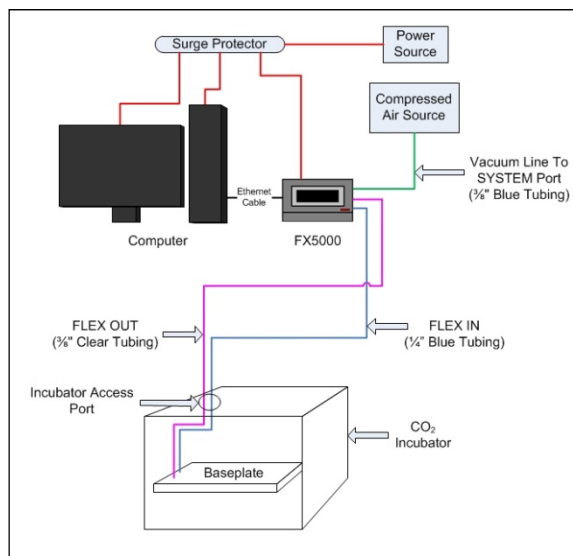
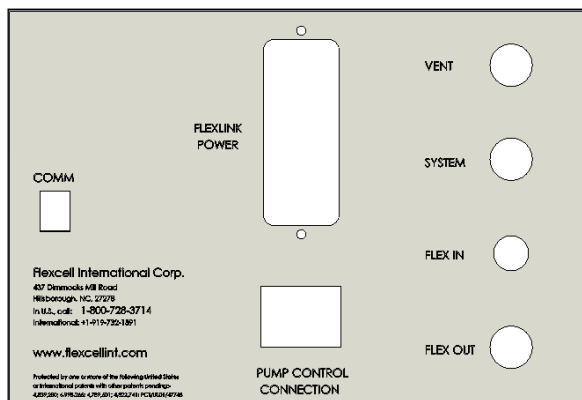
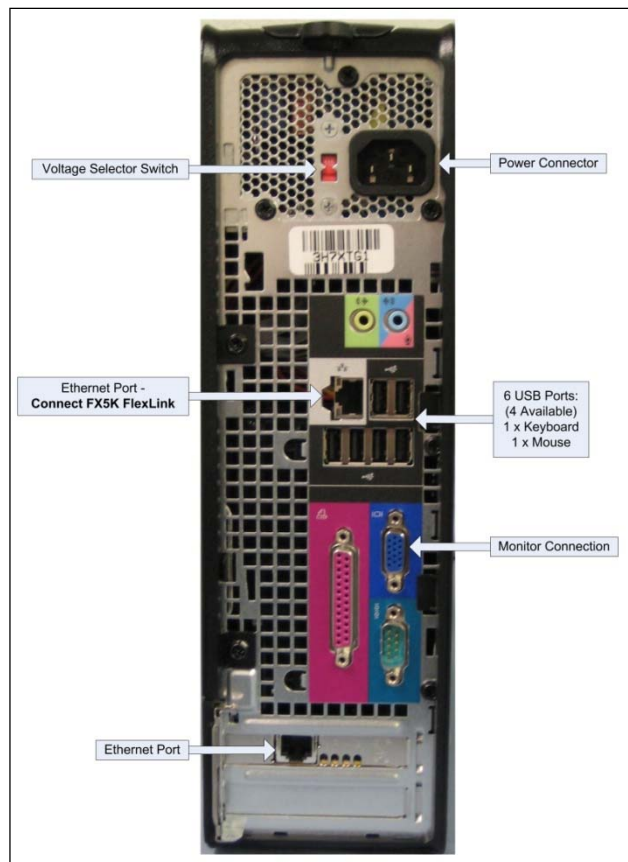

Figure 1. Flexcell® FX-5000™ Compression System
Figure 2. FX5K™ Compression FlexLink® rear view
Figure 3. Dell OptiPlex rear view
4. Connect the FlexLink® (**COMM**) to the Ethernet port on the back of the computer using the Ethernet cable supplied (see Figs. 2 and 3, p. 2).
Choose a location for the FX-5000™ Compression system (Fig. 1) that is adjacent and as close as possible to the CO₂ incubator and positive pressure source. A shorter distance in the pressure lines decreases the airflow resistance for compression and release of the flexible bottomed plates, allowing for a greater range of compression at higher frequencies. The length of the pressure line should be a minimum of 4' (1.2 m). All cables (mouse, monitor, keyboard, and Ethernet communications cables) will connect to the rear of the **computer** (Fig. 3). All tubing and the Ethernet communications cable connect to the rear of the **FX5K™ Compression FlexLink®** (Fig. 2). The length of the clear and blue tubing from the FlexLink® to the baseplate should be 10' (3
NOTE: The **PUMP CONTROL CONNECTION** (Fig. 2) feature is only available with the **FX-5000™ Tension system**.
1. Connect the $\frac{3}{8}$ " (9.5 mm) O.D. blue tubing from the pressure source to the **SYSTEM** port on the back of the FlexLink® (Fig. 1 & 2).
2. Attach the free end of the clear $\frac{3}{8}$ " (9.5 mm) tubing to the **FLEX OUT** port on the back of the FlexLink® (Fig. 2).
3. Attach the free end of the blue $\frac{1}{4}$ " (6.4 mm) tubing to the **FLEX IN** port on the back of the FlexLink® (Fig. 2). The **VENT** port should be left open.
Connect the power cables (115 or 230 VAC) to the rear power inlet (**FlexLink Power**) of the FlexLink® (Fig. 2). If the available power supply is 115 VAC or 230 VAC, be sure the voltage selection switch ON the computer (Fig. 3) is set to 115 V or 230 V, respectively. When the instruments are completely set up, the power cords should be connected to a **surge protected** power strip and then to a 115 VAC or 230 VAC, 60 Hz power outlet.
Place the entire assembly into the incubator. Attach the *FLEX IN* and *FLEX OUT* quick disconnect fittings to the fittings on the compression baseplate (Fig. 1 & 4).